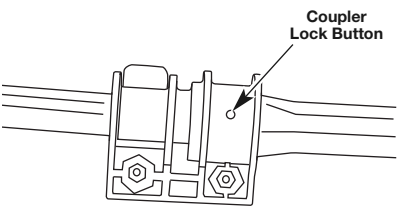

Fig. 3
3. Slide the top of the lower boom shaft into the bottom of the upper boom shaft and push together until the coupler is snug against the upper boom. Make sure the coupler lock button snaps into the hole (Fig. 3).